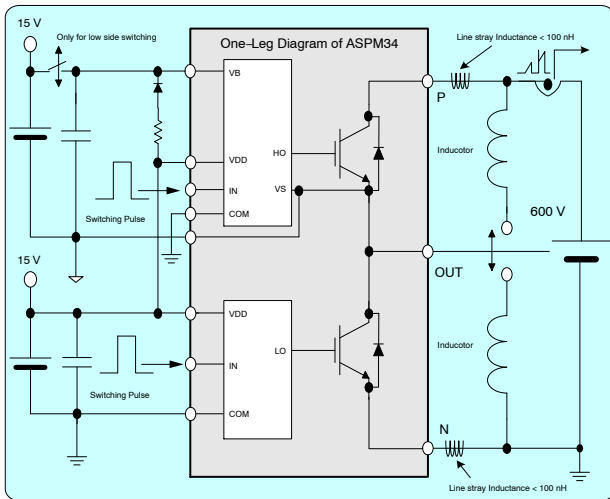
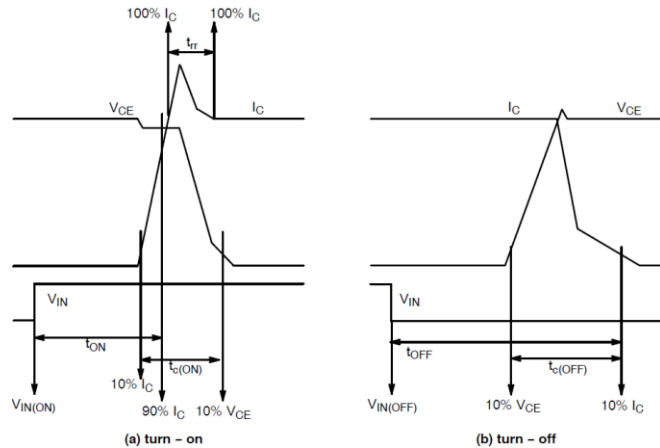

Figure 11. Switching Evaluation Circuit
Figure 12. Switching Evaluation Circuit and Switching Time Definition
6. t_{ON} and t_{OFF} include the propagation delay time of the internal drive IC. $t_{C(ON)}$ and $t_{C(OFF)}$ are the switching time of IGBT itself under the given gate driving condition internally. For the detail information, please see Figure 11 and Figure 12.